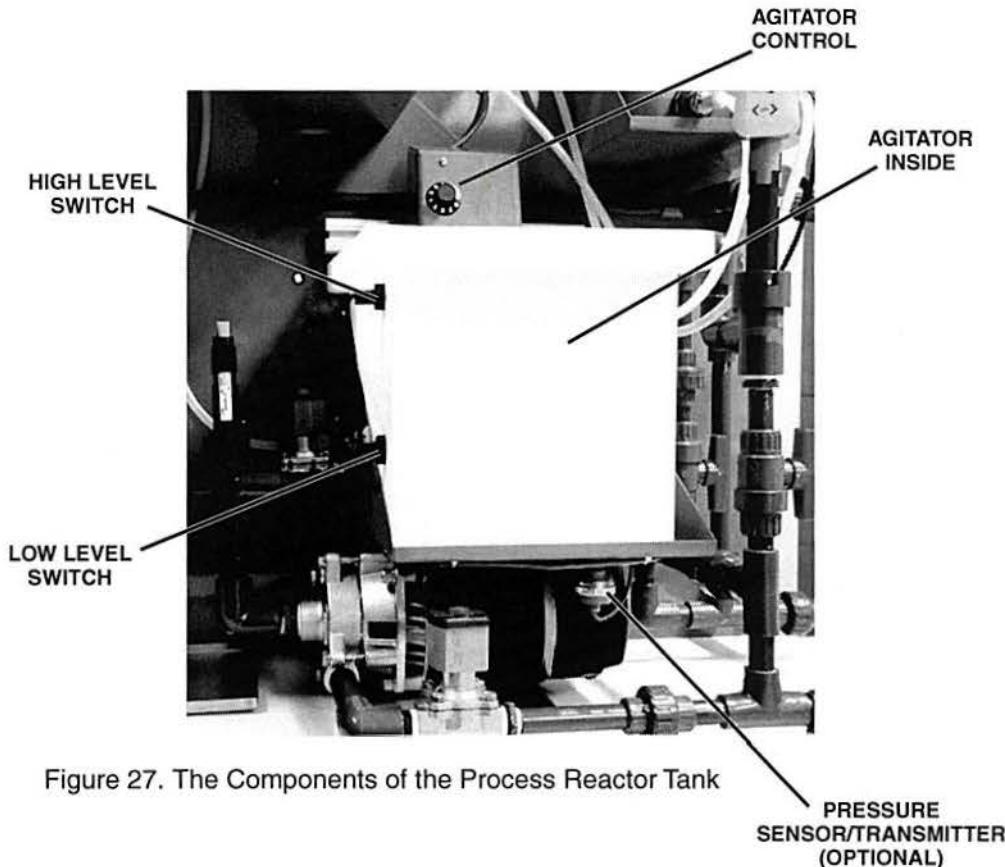

Figure 27. The Components of the Process Reactor Tank
The process reactor tank, shown in figure 27, holds the process fluid and allows the reagent to mix with it. The reactor tank includes an agitator to mix in the reagent. The reactor tank also includes high and low level switches, as well as an optional pressure sensor/transmitter mounted in the bottom of the tank to measure the level of fluid in the tank, if desired.
D. Locate the **Agitator and Agitator Control**, identified in figure 27.